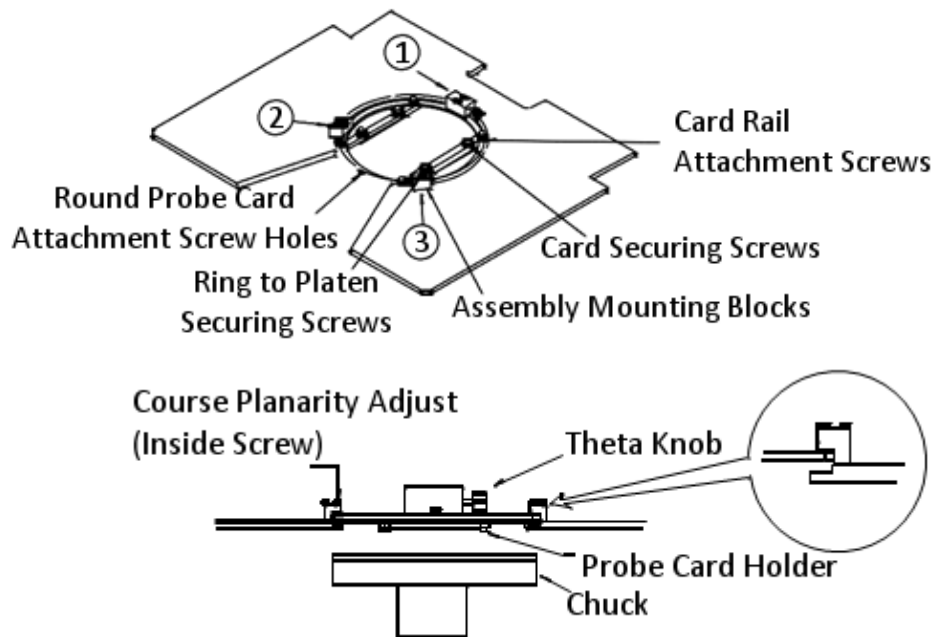

FIGURE 4-4. PROBE CARD HOLDER
The optional PROBE CARD HOLDER (Ref. Fig. 4-4) is designed to mount to the platen and extend over the chuck and under the microscope objectives.
2. Install mounting block number 1 first (Ref. Fig. 4-4) loosely. Install numbers 2 and 3 and apply light pressure on angles on corner of bearing block ensuring contact of bearing to outer diameter of ring as shown in figure 4-4 detailed circle.